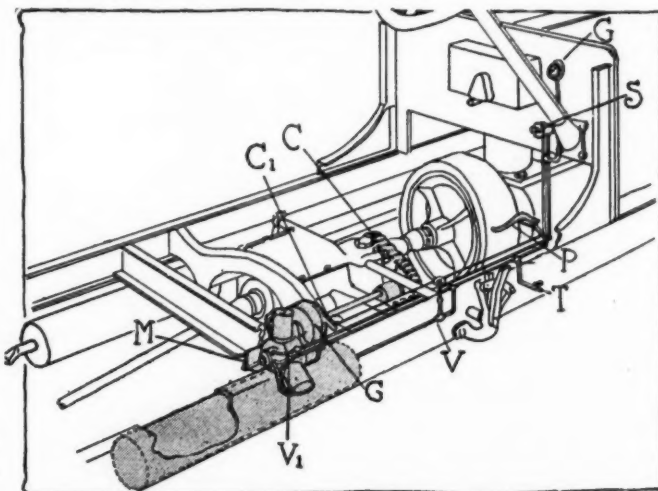

Fig. 9—Akron air starting system
**Akron Air Starting System**—This equipment, Fig. 9, consists of a mechanism which acts either as a motor for or a compressor pumping air into a tank of a change-speed gear-set for connecting the device to the driving gear of the car and valves for starting the motor and inflating tires and valves for working the starter and cutting out the air when the starter action is to cease. The motor and pump is shown at P, being connected at C1 to the connections which are operated by the starter valve S on the dash. The valve V serves for cutting out the air, while the pedal P, if pressed, engages the gearset G so that the motor is driven as a pump and fills the tank T1. The tire connection T equipped with a cock permits of attaching a tire-inflating hose to it, so that tires may be pumped up directly from the tank. The whole system weighs only 50 pounds and is, of course, installable on any type of automobile.